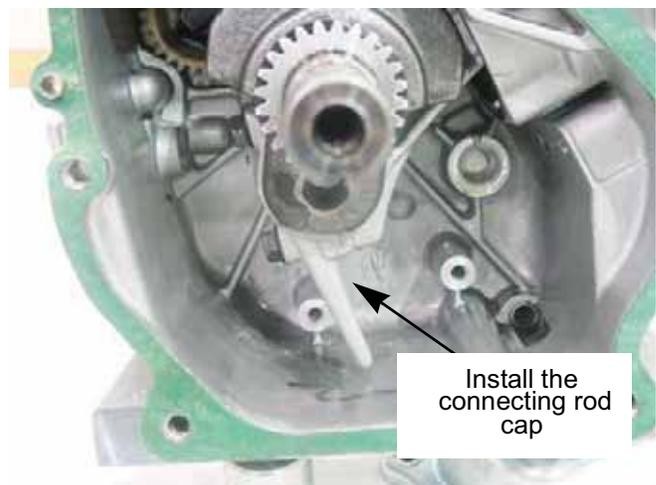

Figure 10.22
- 4f. Install the connecting rod cap. Apply a small amount of releasable thread locking compound such as Loctite® 242 (blue) to the connecting rod bolts. Refer to the table at the end of this chapter for the proper bolt torque. See Figure 10.22.